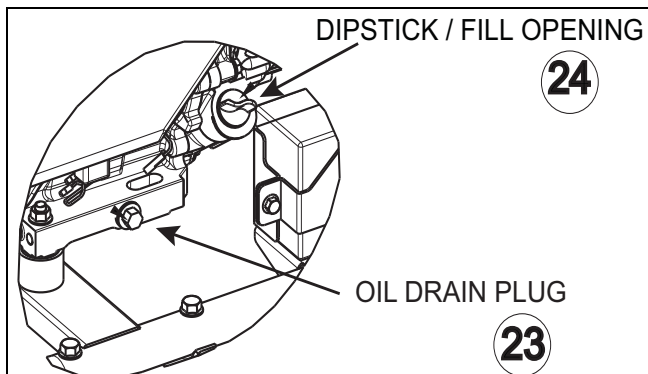

Figure 4-1. Oil Drain Plug
See the “Before Starting the Generator” section for information on Adding and checking the oil level. The oil level should be checked before each use, or at least every eight hours of operation. Keep the oil level maintained. See Figure 4-1 for the dipstick and oil fill location.
1. Clean area around oil drain plug. See Figure 4-1.